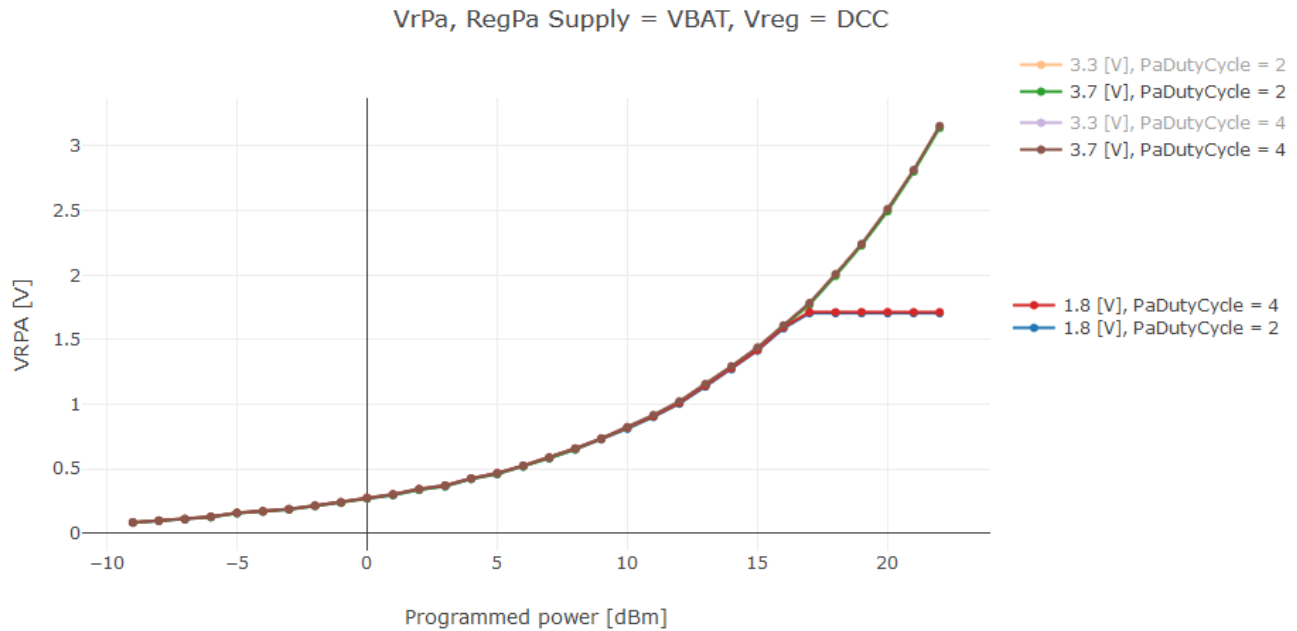

Figure 9-4: High Power PA VR_PA Voltage vs. TxPower
The VR_PA variation over the programmed power TxPower for different supply voltages and duty cycle (PaDutyCycle) conditions is depicted in Figure 9-4: High Power PA VR_PA Voltage vs. TxPower below.
- For the +22dBm power setting, a VR_PA of ~3.1V is required (refer to Figure 9-4). Therefore, given the 200mV drop-out of the PA regulator, the +22dBm output power can only be obtained from a 3.3V to 3.7V supply voltage range.